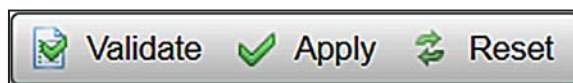

Figure 43. The Validate button.
STEP 4. When the password has been entered, click on the **Validate** button in the top right corner of the *IntelliLink* screen. See Figure 43.
STEP 5. If the password change validates successfully, click on the **Apply** button to finish the password-change process and configure the new password on the control. See Figure 43. Go to Step 6 if the password change was not validated successfully.